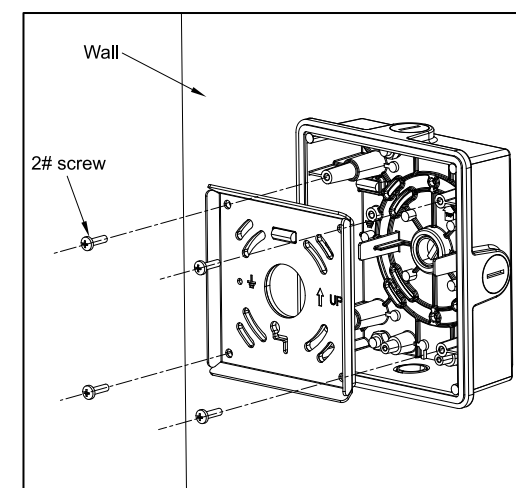

Figure 11
2. Fix the mounting plate on the external junction box with four #2 screws; Figure 11